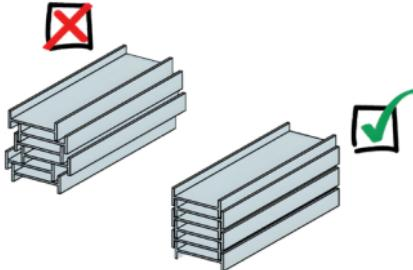

Figure 19. Align stack centrally.
- Align stacks of beams centrally (Figure 19).